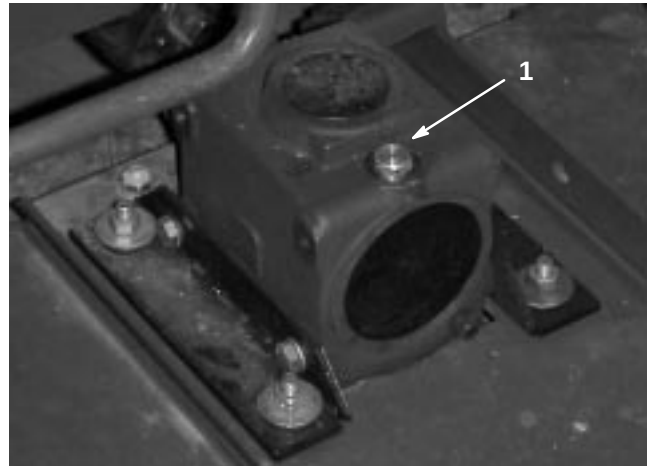

Figure 26
2. Position the machine and cutting unit on a level surface and lower the cutting unit. Remove the dipstick/fill plug from the top of the gear box (Fig. 26) and make sure that the lubricant is between the marks on the dipstick. If the lubricant level is low, add SAE 80–90 wt. gear lube until the level is between the marks.